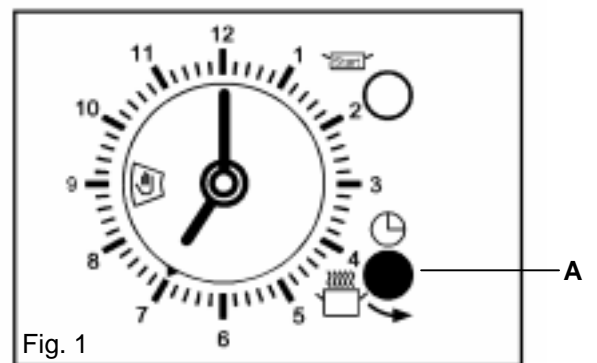

Fig. 1
To set, **push in** and turn setting knob (A) anti-clockwise until the right time of day is displayed, e.g. 7 a.m. as Fig.1.